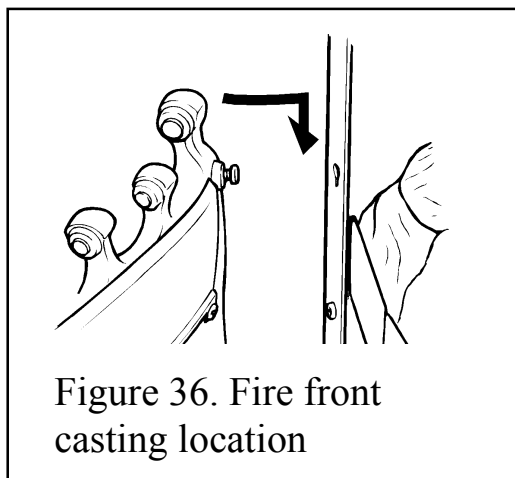

Figure 36. Fire front casting location
1. Fit the fire front casting to the front surround. Locate the two screw heads at the rear top corners of the casting through the keyhole slots at the inner sides of the surround. If the screw heads do not project enough or project too far, the screws can be adjusted. Lower the casting so that it rests on the hearth. See figure 36.